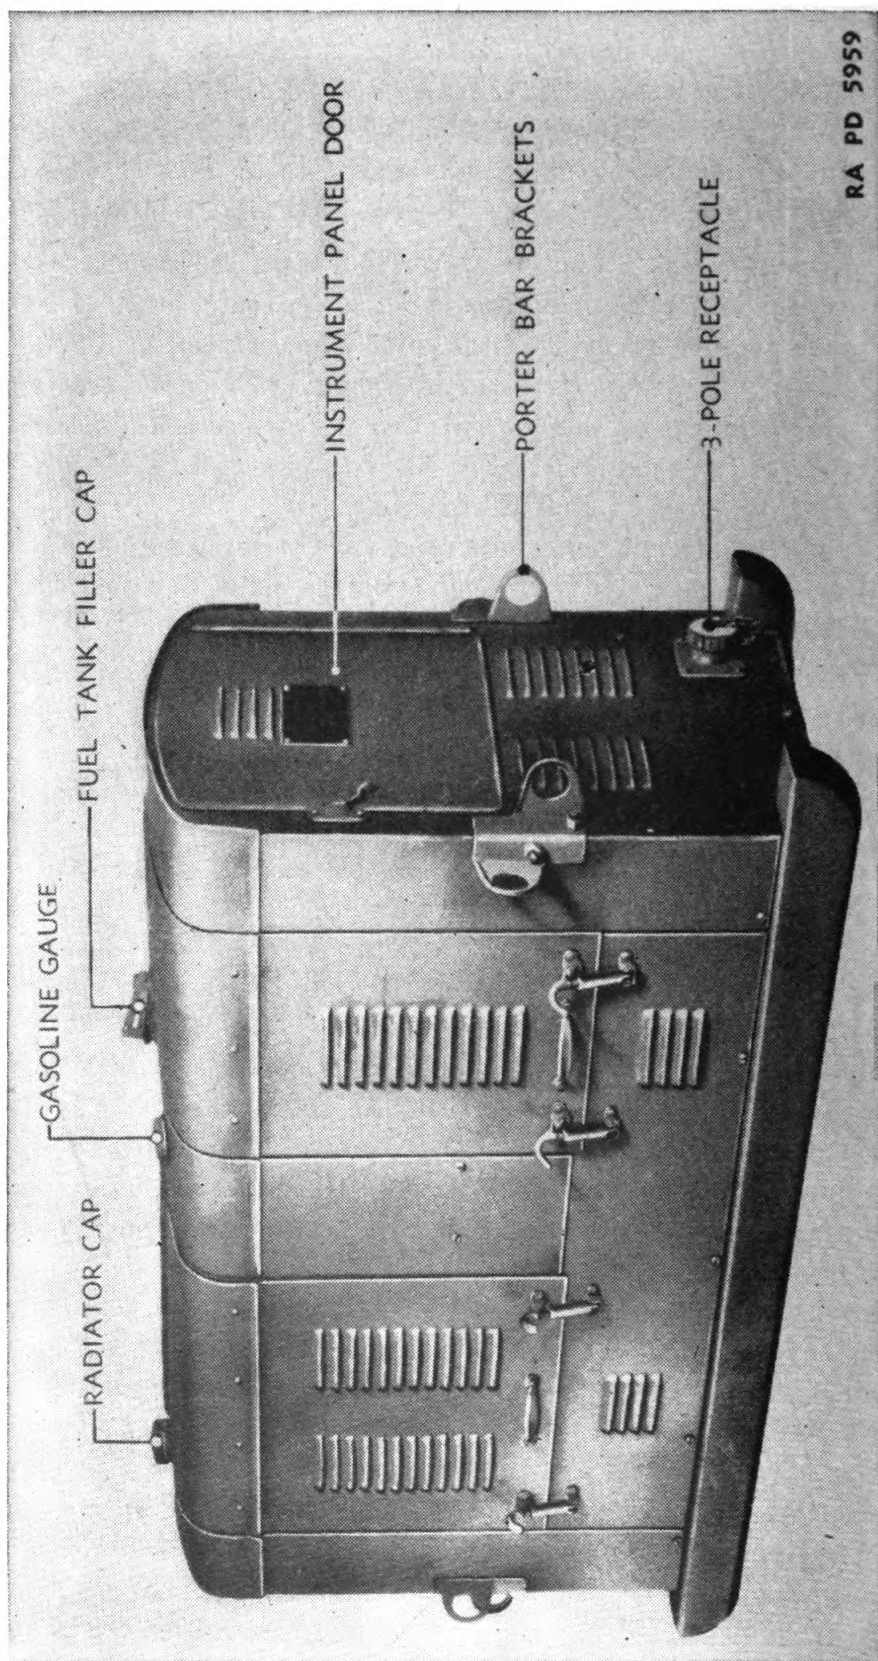

FIGURE 108.—Generating unit M5—rear and left side.
**108. Generating unit M5.**—The generating unit M5 (figs. 108 and 109) is a 3-phase a-c gasoline electric unit rated at 3.0 kva, 125 volts, 60 cycles. It is mounted on skids and is furnished with four porter bars so that it can be moved in the field without difficulty. Its overall weight is approximately 800 pounds.
*a. Gasoline engine.*—(1) The engine is a standard commercial four-cylinder, four-cycle, L-head, water-cooled machine which uses standard gasoline as fuel.
(2) The engine is equipped with a cooling system consisting of a water pump, radiator, and fan. The water capacity of the cooling system is approximately five quarts.
(3) The oiling system is the forced feed type. The oil pump delivers oil under pressure to all main bearings and connecting rod bearings. The cylinder bores, tappets, and valve stems are lubricated by the mist of oil thrown off by the connecting rods and main bearings.
*b. A-c generator.*—(1) The generator is a 3-phase, alternating current, revolving field type machine, with a separate built-in exciter. It is designed to give 60 cycles, 125 volts when driven at 1,200 rpm; or 50 cycles, 130 volts when driven at 1,000 rpm. *The generator should always be set for 60 cycles when operating the director M5, and remote control system M1 ((5) below).* The 50-cycle generator setting is used only with certain types of British matériel.
(2) The direct current generator used for the separate excitation is mounted on the same shaft with the revolving field, between the generator bearings.
(3) Power is taken from the unit through the 3-pole receptacle (fig. 108) located at the lower right-hand corner of the housing under the instrument panel.